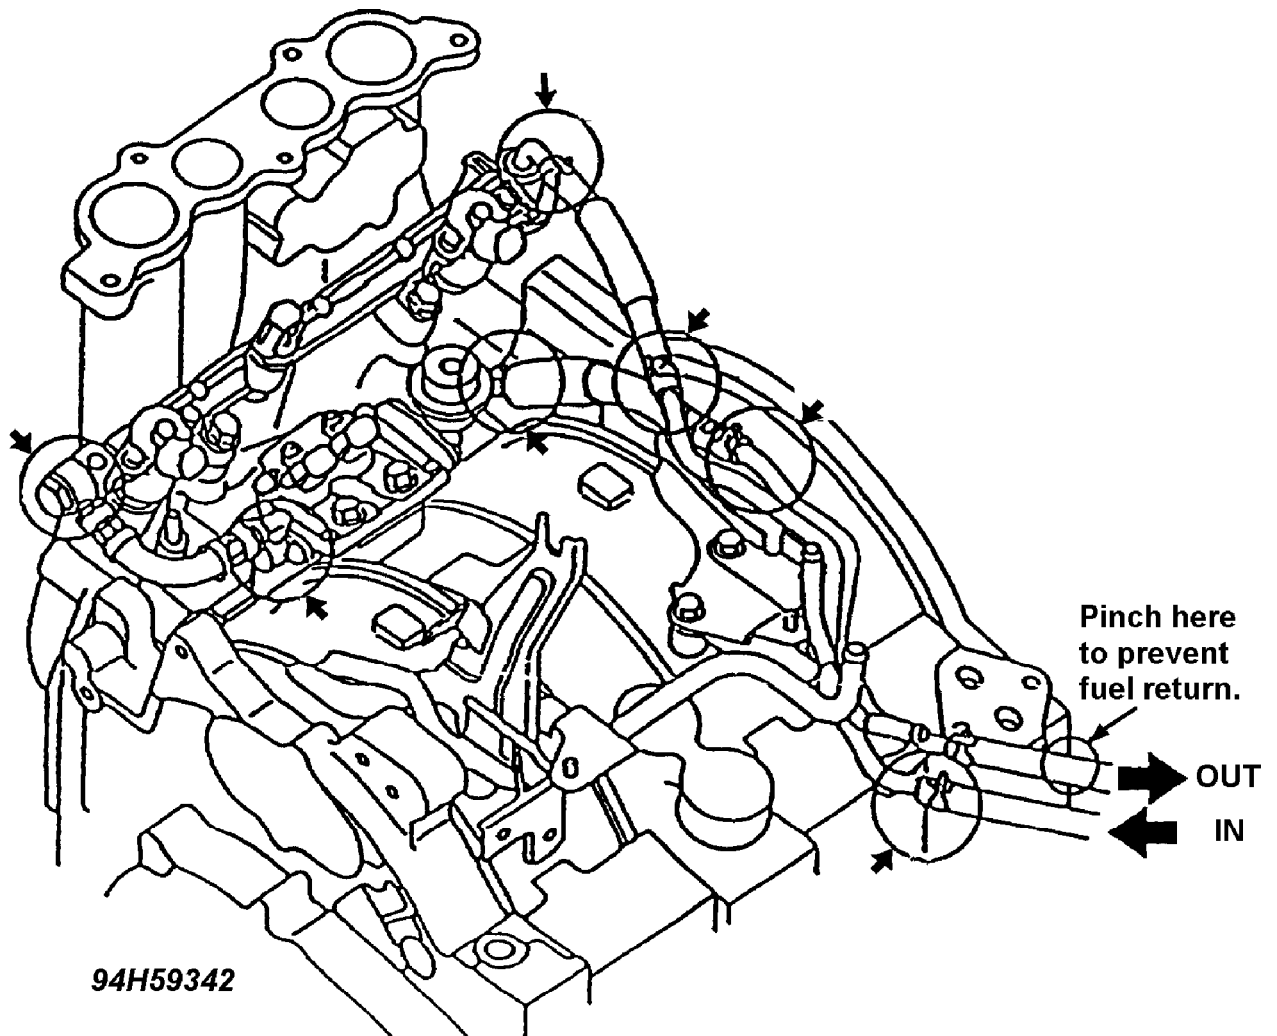

Fig. 29: Seven Fuel Leakage Areas
3. Pinch the fuel return hose with a suitable tool, to stop any fuel return to the tank. See Fig. 29.
\* Check for fuel leakage visually and by odor. Carefully check the positions(seven) indicated by the arrows shown in Fig. 29. If fuel leakage is found, repair the problem. Once repaired, check again according to the above steps.